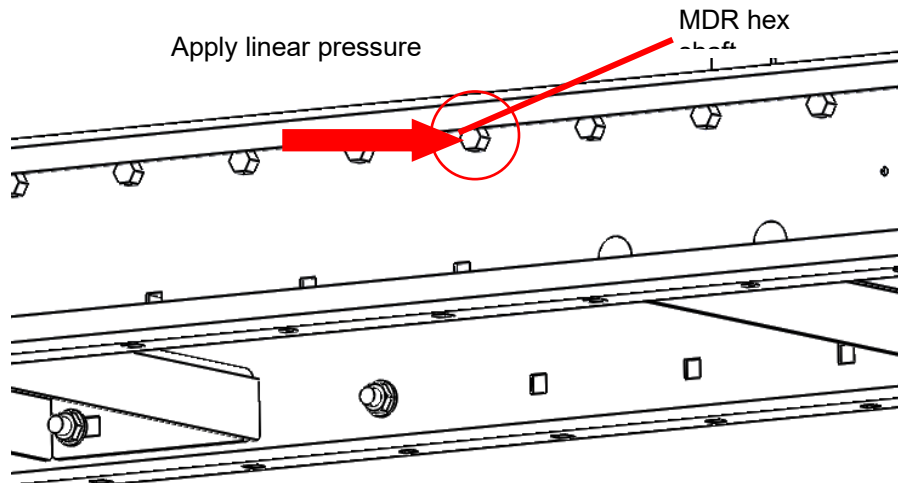

Figure 7: MDR Removal-2
3. Apply pressure on the end of the hex shaft on the band side with a small diameter punch or similar tool until the shaft clears the frame. Be careful NOT to apply a side load to the hex shaft. (Refer to Figure 7)
6. Once the MDR has been reached, apply pressure on the end of the hex shaft opposite the MDR cable using a small diameter punch or similar tool until the shaft clears the frame. Be careful NOT to apply a side load to the hex shaft. (Refer to Figure 7)